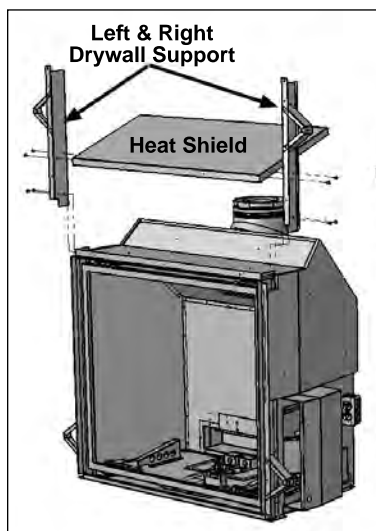

Figure 28: Installation of Supports & Heat shield.
1. Using eight (8) T-20 screws provided, install the drywall supports right and left as well as the heat shield in the middle, as shown in Figure 28.